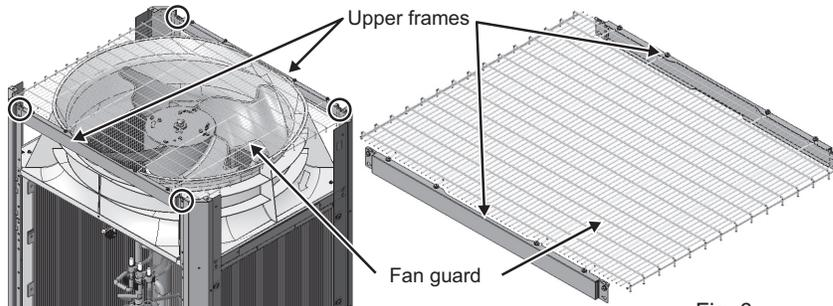

Fig. 6
(6) Remove the fan guard and the upper frames. (Four screws: Fig. 6)